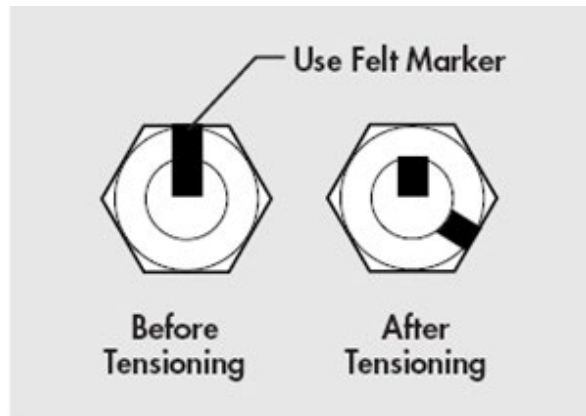
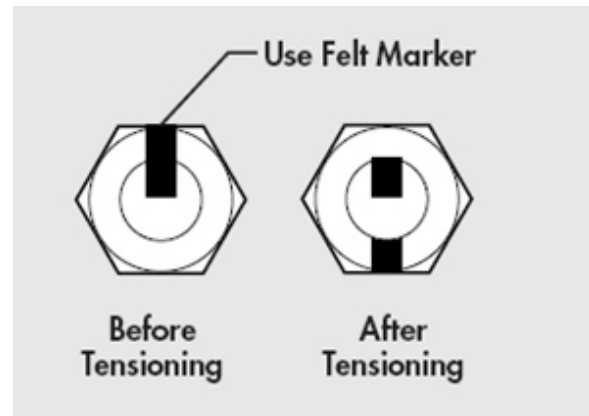

Figure 1-1: Bolts Shorter than 4 Diameters
Figure 1-2: Bolts Longer than 4 Diameters
5. Using a felt-tip marker, mark the nuts and ends of the bolts with a straight line as shown above in Figure 1-1 and Figure 1-2.
Moved 1/3 turn (120°) as shown in Figure 1-1 ("After Tensioning")
Moved 1/2 turn (180°) as shown in Figure 1-2 ("After Tensioning")